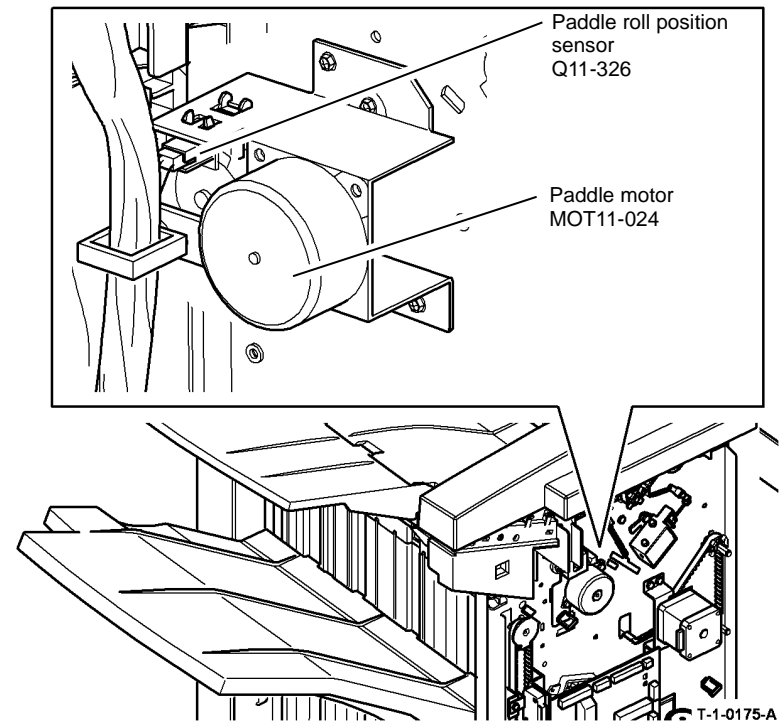

Figure 1 Component location
- Figure 1.
- The bin 1 upper level sensor detects the top of the paper stack in bin 1, Figure 1.